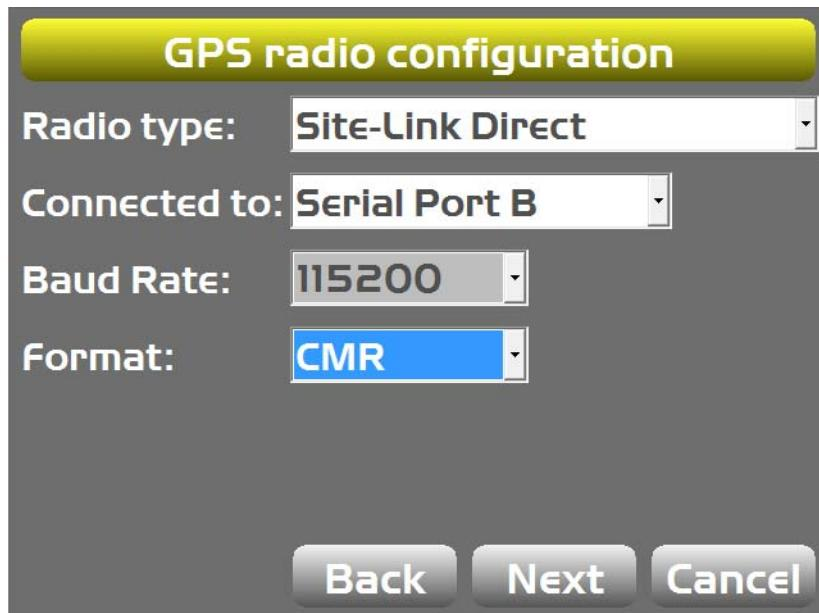

Figure 19. 3DMC SiteLINK Server Connection
1. In 3DMC in the machine builder **GPS radio configuration** screen, select **Direct Network Connection** as the **Radio type** (Figure 19).